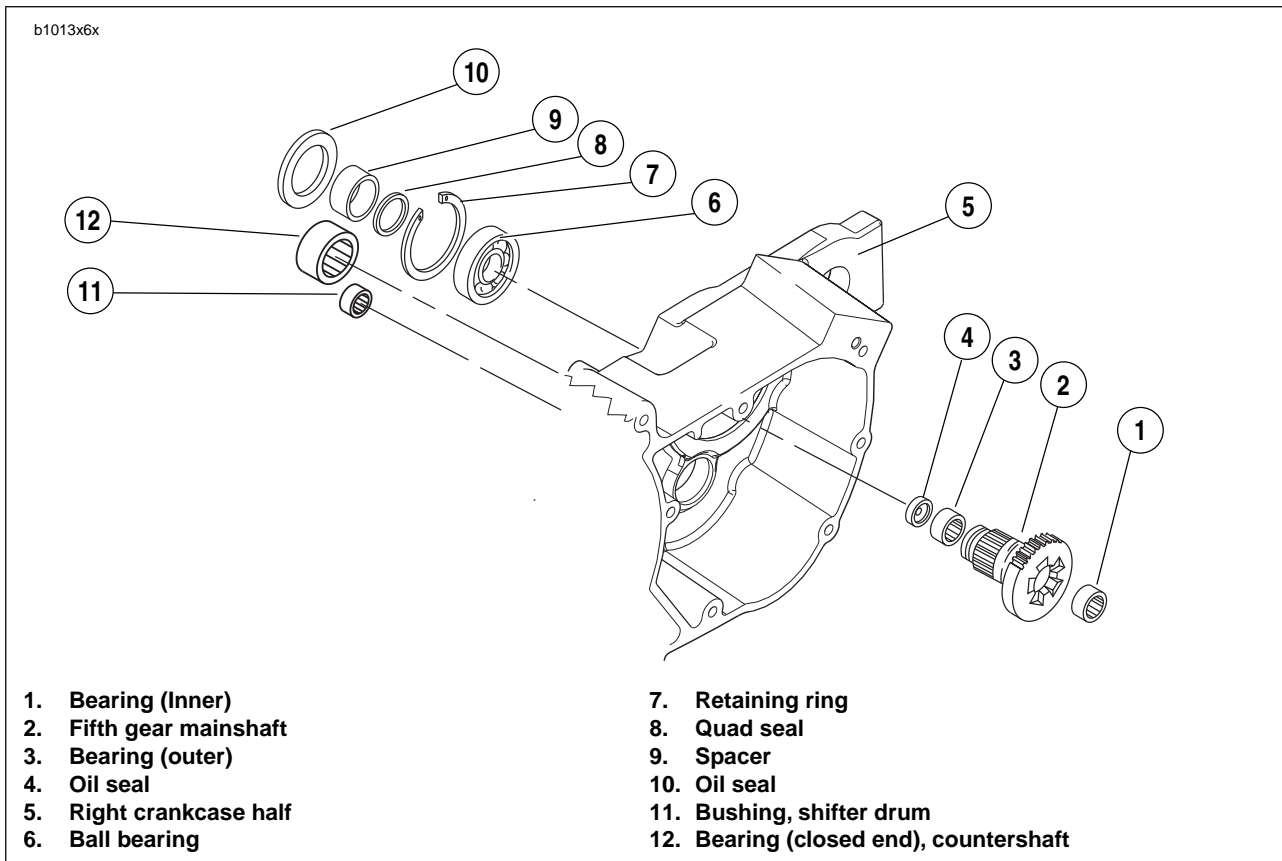

Figure 6-74. Transmission Assembly Right Crankcase Half
4. See Figure 6-74. Place **new** quad ring over threaded end of fifth gear, and position next to the gear taper. Install spacer over threaded end of fifth gear with chamfered end toward quad ring. Slide spacer up against bearing.
See Figure 6-74. Refer to *Transmission assembly right crankcase half*, for location of items discussed on this page.
2. See Figure 6-74. Remove main drive 5th gear. Use MAIN DRIVE GEAR REMOVER AND INSTALLER (Part No. HD-35316A). See 6.10 MAIN DRIVE GEAR.
2. See Figure 6-74. From the outside of the case place the needle bearing open end first next to the bearing bore. Hold the driver squarely against the closed end of the bearing and tap the bearing into place. The bearing is properly positioned when it is driven inward flush or 0.030 in. (0.762 mm) below the outside surface of the case.
4. See Figure 6-74. The shifter drum bushing (11) is a press fit in the right crankcase half. Inspect the bushing against the corresponding end of the shifter drum for proper fit and wear.